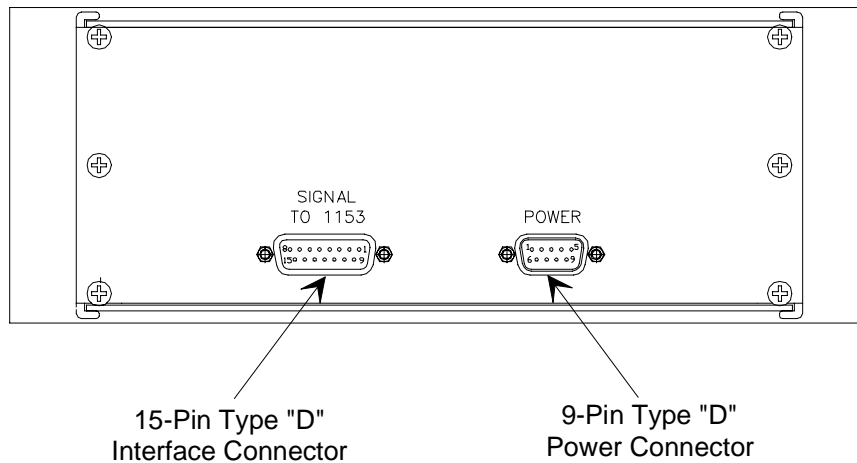

Figure 7: Rear Panel Controls
3. Connect the 1153 MFC and the Type 260 PS-7 power supply to the connectors on the rear panel of the 243 unit (refer to Figure 7, page 31) using the proper interface cables.